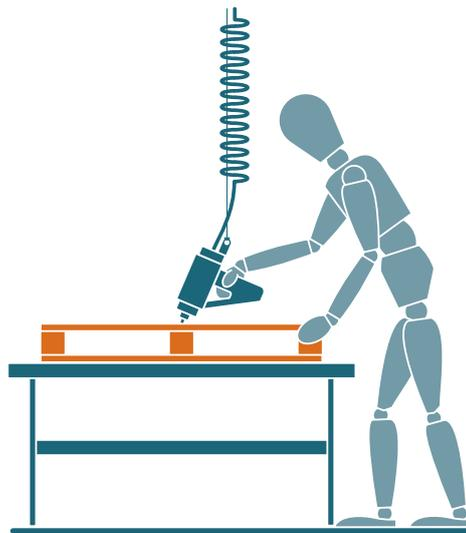

Figure 8 Inertial balance system
**Solution:** The weight of the gun can be reduced by providing a suspension system. This involves holding the gun on an inertial balance system suspended above the workstation. This takes most of the weight of the gun and the operator then simply has to move it to the various points where a nail or staple is required (see Figure 8). The task can be made easier still by positioning the workbench to the optimum angle to allow the work item to be easily accessed – reducing the need to reach or stoop.